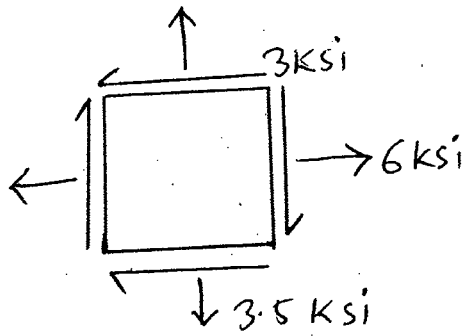

FIGURE . 7
8. Determine the equivalent state of stress on an element if the element is oriented 33.7° clockwise from the element shown in Figure 7. (14)
9. Using Mohr's circle of stresses, for the element shown in Figure 7. (14)